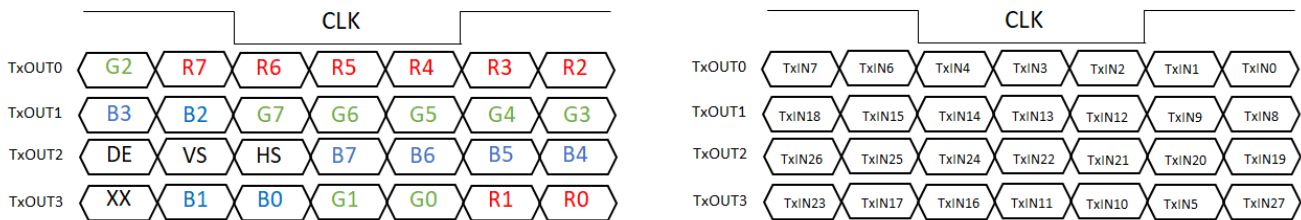
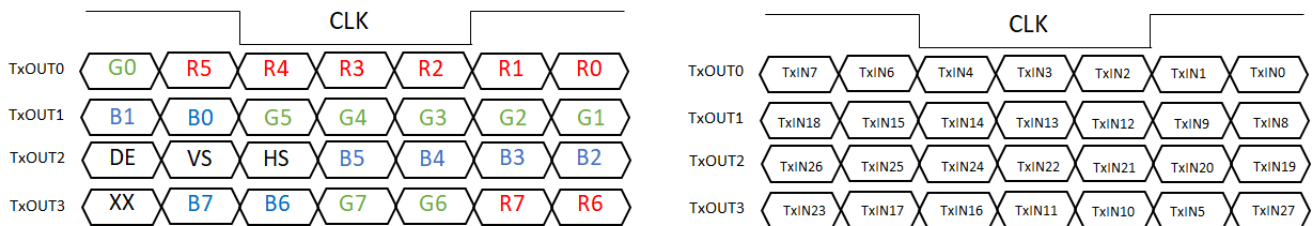

Figure 1. JEIDA/Format 1 Mapping for 24-bit, Single Pixel per Clock Input Applications
Figure 2. VESA/Format 2 Mapping for 24-bit, Single Pixel per Clock Input Applications
The data mapping this document highlights is the JEIDA format (also known as Format 1), where the most significant bits (MSB) for an 18-bit application are mapped exactly the same as the most significant bits in the 24-bit application from the VGA controllers. Only 3 LVDS serialized data lines are required for an 18-bit SerDes application, while a 24-bit application uses 4 LVDS data lines. The additional least significant bits (LSB) in the 24-bit application are mapped to the 4th LVDS data line. This mapping format is shown in Figure 1.
However, the VESA format (also known as Format 2, where the MSB are mapped to the 4th LVDS data line) and any other format can also be used. This just requires re-mapping the bits to the correct pins, as shown in Figure 2.
2. Identify the RGB mapping format on the display datasheet (e.g. the image on the left of Figure 1)
3. Identify the pin number mapping on the SerDes datasheet (e.g. the image on the right of Figure 1)
The tables are read from left to right. From the left, the R0, G0 and B0 bits are the least significant bits (LSB) as defined by the VGA controllers. These signals should be connected to the input data pins of the transmitters (i.e., color bit R0 in an 18-bit application must be connected to Txin0 or R10, depending on the transmitter being used). The output signals of the receiver are mirror images of the input signals to the transmitter. The DS90C387/DS90CF388 are capable of supporting single pixel, dual pixel, or single-in/dual-out pixel modes. Determine the mode to be used, and then review the corresponding table. Specific part numbers like the DS90C387 and DS90C385 are used as examples in this document, but the procedure is the same for every LVDS SerDes device. Consult the mapping diagrams (e.g. Figure 1) on the individual datasheets to map the pins to the correct bits.
Figure 1 and Figure 2 illustrate JEIDA and VESA mapping and the corresponding pinout for 24-bit SerDes devices like the DS90C385 transmitter. “XX” is an extra general-purpose bit. You can choose to tie this input low if it will be unused, or you can send additional control information if necessary on this input.